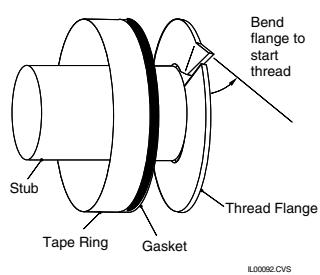

Figure 2. Spin-In Takeoff (for 1" Fiberglass Duct)
3. Bend the starting edge of the spin-in (UPC-23B) takeoff thread flange as shown in Fig. 2. Then twist the spin-in into the hole. Be sure that the bottom flange is fully engaged on the inside of the plenum. It may